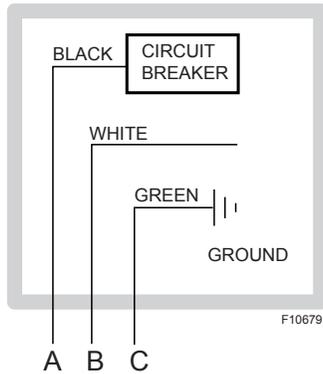

Figure 19. Wiring Connections
**WARNING:** Using a multi-meter, check the following voltages at the circuit breaker panel prior to connecting any equipment. Make sure proper polarity is followed and house ground is proven. (See Figure 19.)